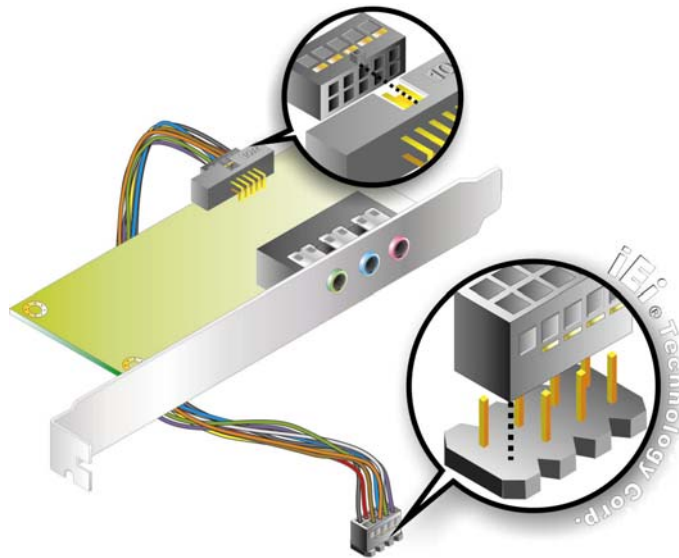

Figure 5-5: 5.1 Channel Audio Kit
- Step 3: Align pin 1.** Align pin 1 on the on-board connector with pin 1 on the audio kit cable connector. Pin 1 on the audio kit cable connector is indicated with a white dot. See Figure 5-5.